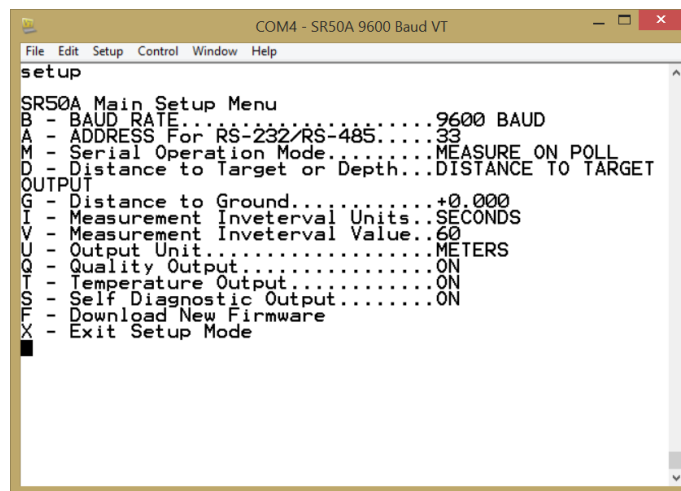

FIGURE E-7. Testing the Configuration
7. All changes needed to work with the SR50AT/T are complete. You are back at the main screen with the cursor blinking in the upper left corner of the window. To see if communication has been established with the SR40A/T, type **setup** and press **enter**. The word **setup** should appear in the terminal window and the SR50AT/T setup window should appear as well (FIGURE E-7).